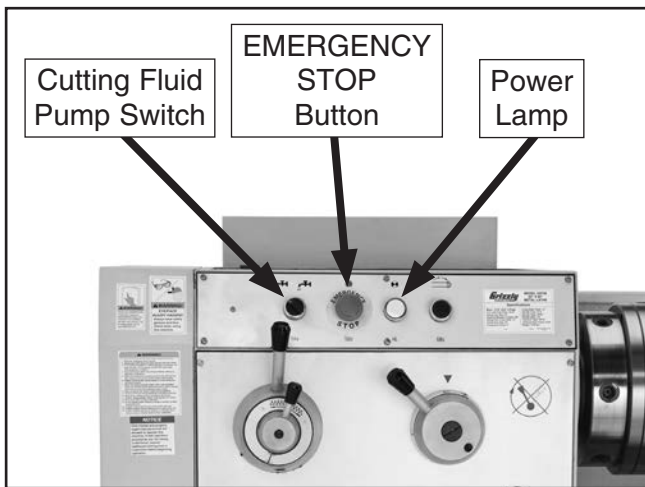

Figure 26. Control panel buttons used in test run.
5. Push the EMERGENCY STOP button on the control panel (see **Figure 26**), and point the coolant nozzle into the chip pan.
19. Use the cutting fluid pump switch on the control panel to start the pump (see **Figure 26** on **Page 29**), then open the valve. Verify that the cutting fluid flows from the nozzle, then turn the pump **OFF**.